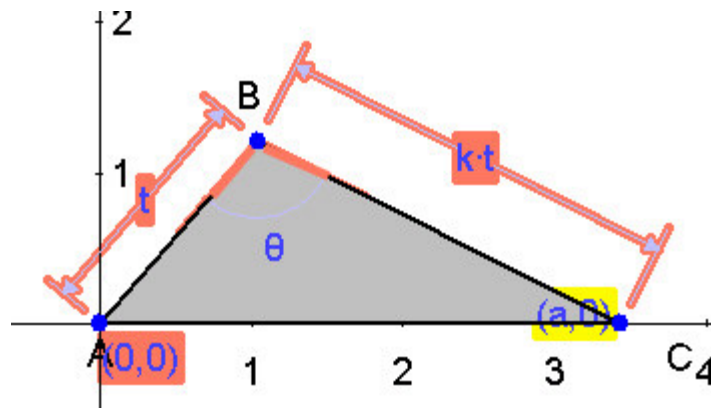
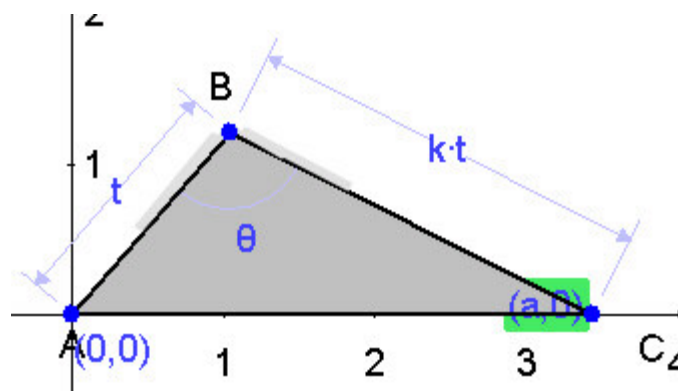

Figure 1
Figure 2
3. If you choose "Relax other constraints so the coordinate is independent", this will keep the new constraint you just entered and allow you to eliminate one of the **red highlighted** constraints (*figure 1*). When you select one of these constraints (in *figure 2* below we clicked on  $\theta$ ), the highlight changes to gray. After you click **Ok**, the selected constraint, the angle  $\theta$  in this case, is calculated and displayed (*figure 3*).